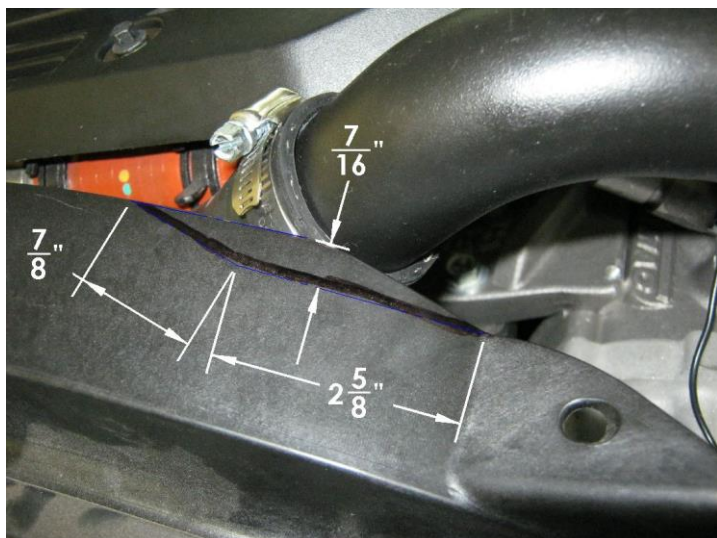

Figure 2.5
- ☐ Cut away the section shown in Fig. 2.5 from the top surface of the fan shroud.